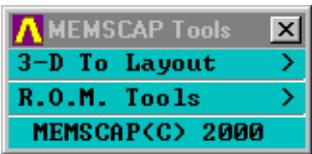

Figure 15: MEMSCAP Tools
- Then, click **3-D To Layout** (Figure 15).